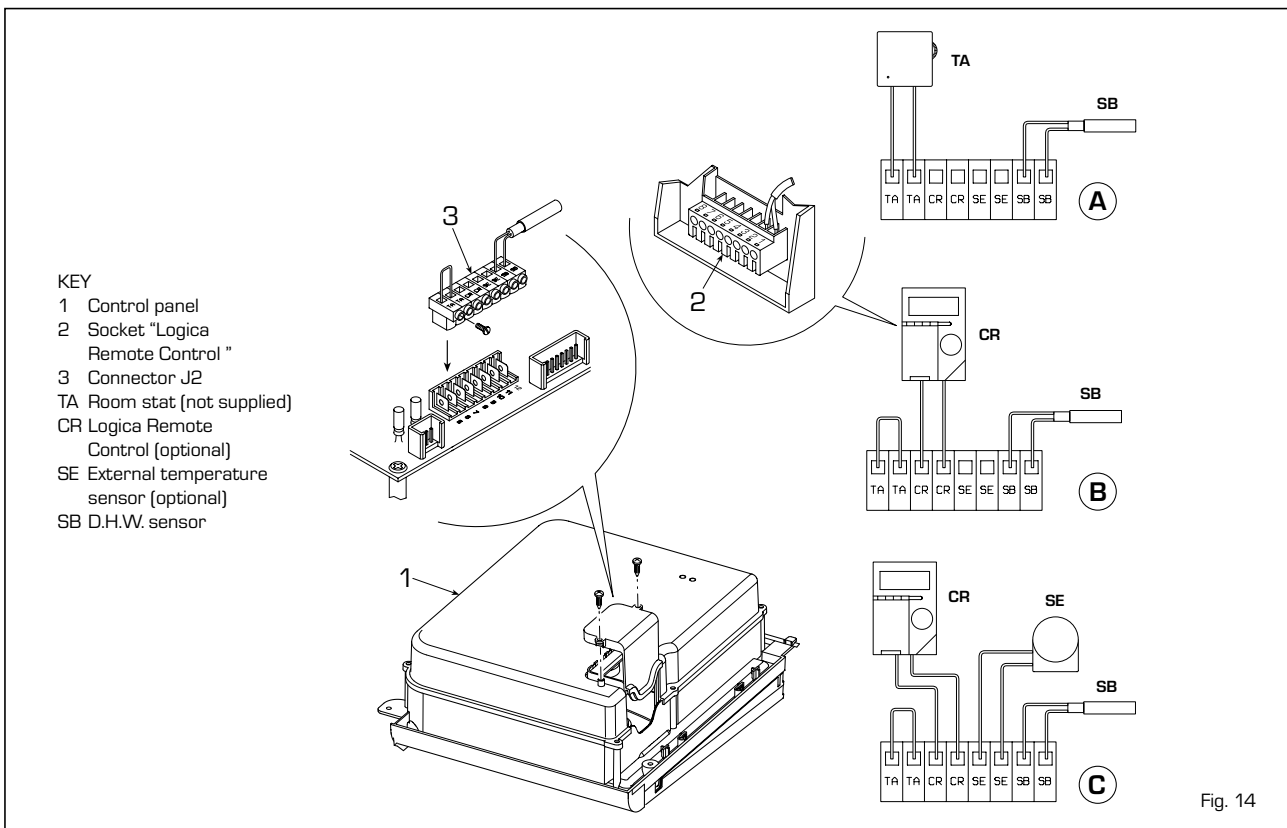

Fig. 14
To gain access to the TA-CR-SE-SB (J2) electronic board connector, remove the control panel cover and connect the room stat to the terminals 5-6 after having removed the jumper (fig. 14).
3.7.2 Connection "Logica Remote Control" (fig. 14 pos. B)
3.7.3 Connection external temperature sensor (fig. 14 pos. C)